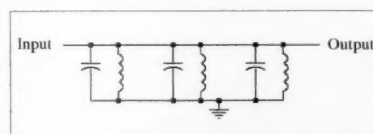

Fig. 7. This is one tuned circuit, not three.
The problem is that you can't just parallel a bunch of tuned circuits together, as in Fig. 7. Even though this looks like three separate tuned circuits, if you parallel the three inductors into one, and the three capacitors into one, you see that there is really only one tuned circuit here. To use more than one tuned circuit in the radio you must somehow separate them so they are not all in parallel with each other. The secret is to separate them with amplifiers.
The circuit started with an antenna, usually a longwire strung outdoors. Then came two or more RF tuned circuits, separated by RF amplifiers. These were called RF because they all amplified the actual radio frequency (RF) signal. Eventually came a detector, which was simply a rectifier diode and capacitor, that worked just like those in the crystal radio shown in **Fig. 1**. This was followed by an AF amplifier, called AF because it now amplified the audio frequency signal, not the radio frequency signal. The audio signal then went to a speaker. You'll note how RF amplifiers separated the tuned circuits, so they would act separately instead of becoming one single tuned circuit, as in **Fig. 7**.